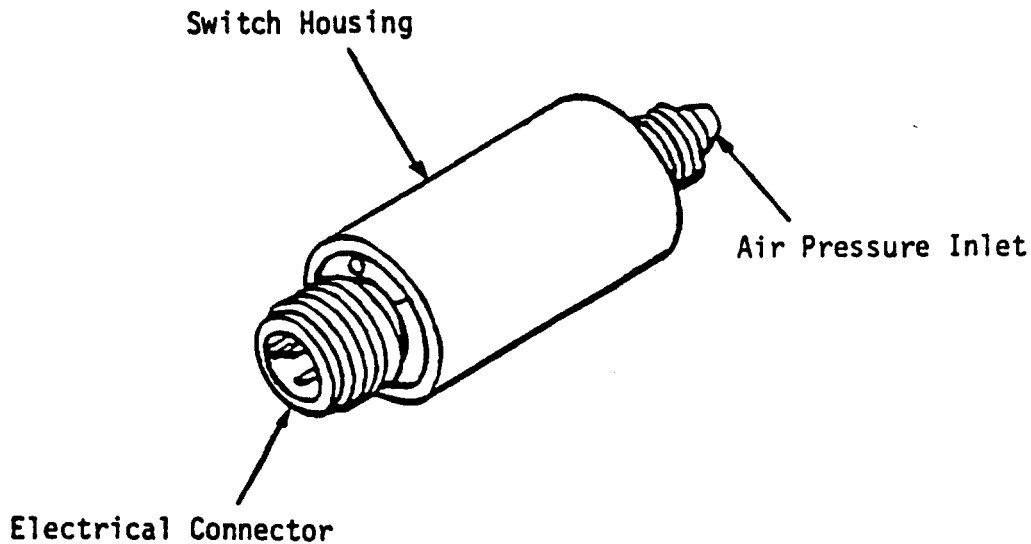

Figure 1 - Pressure Switch
1. Description. The pressure switch, (see Figure 1) is mounted in the aft nacelle at approximately the 6:30 o'clock position on the forward side of frame 5. The pressure switch is a sealed assembly incorporating a single-pole, double-throw switch actuated by engine bleed air pressure working on a spring-loaded diaphragm mechanism. The pressure switch also incorporates a screw-on electrical connector for ease of replacement and trouble shooting.